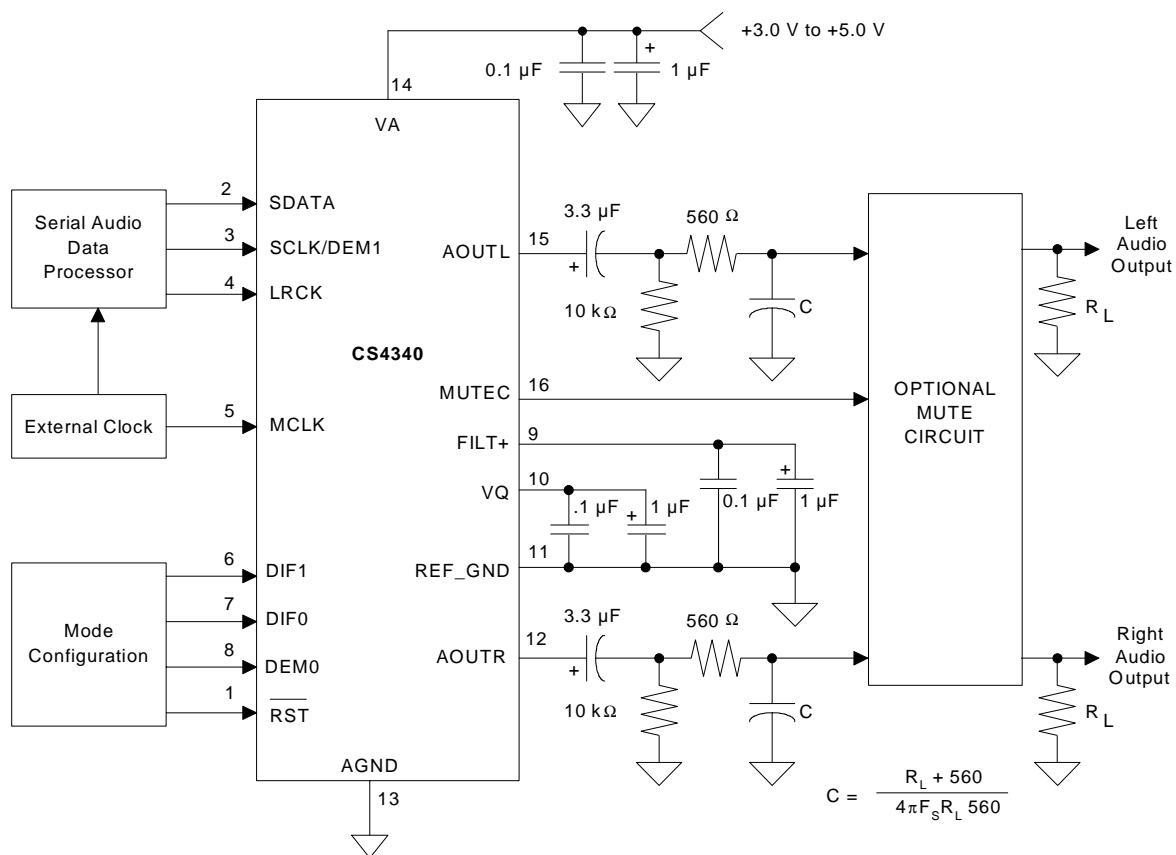

Figure 14. Typical Connection Diagram
- 10. Valid with the recommended capacitor values on FILT+ and VQ as shown in Figure 14. Increasing the capacitance will also increase the PSRR.
As with any high resolution converter, the CS4340 requires careful attention to power supply and grounding arrangements if its potential performance is to be realized. Figure 14 shows the recommended power arrangements, with VA connected to a clean supply. If the ground planes are split between digital ground and analog ground, REF_GND & AGND should be connected to the analog ground plane.